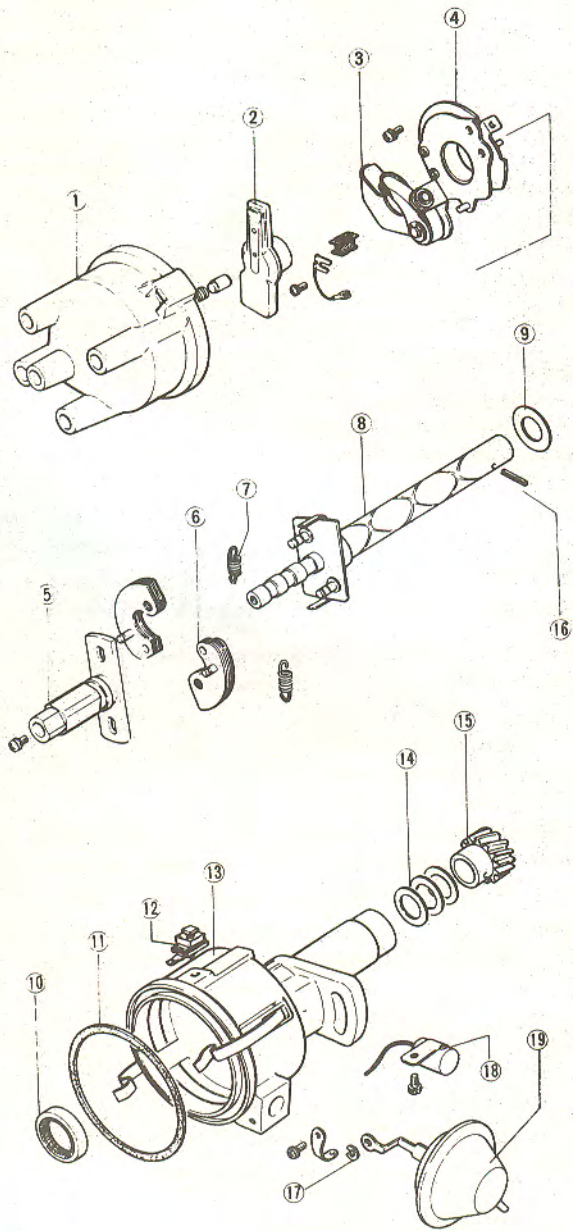

Fig. 1.34. — Exploded view of the ignition distributor.
The distributor consists of a contact breaker mechanism, centrifugal advance mechanism, vacuum advance mechanism and a condenser. The distributor is shown in Fig. 1.34. as exploded view and all operations described in this section will be easier understood, if this drawing is referred to.
A distributor is shown in Fig. 1.34. When dismantling the distributor proceed as follows:
distributor shaft, washers and drive gear with the retaining pin to the distributor body and check the end float of the shaft, using a dial gauge or a feeler gauge. The clearance should be between 0.15 - 0.5 mm (0.006 - 0.02 in.). If the clearance exceeds the upper limit, correct by inserting new adjusting washers (shown by (9) in Fig. 1.34.).